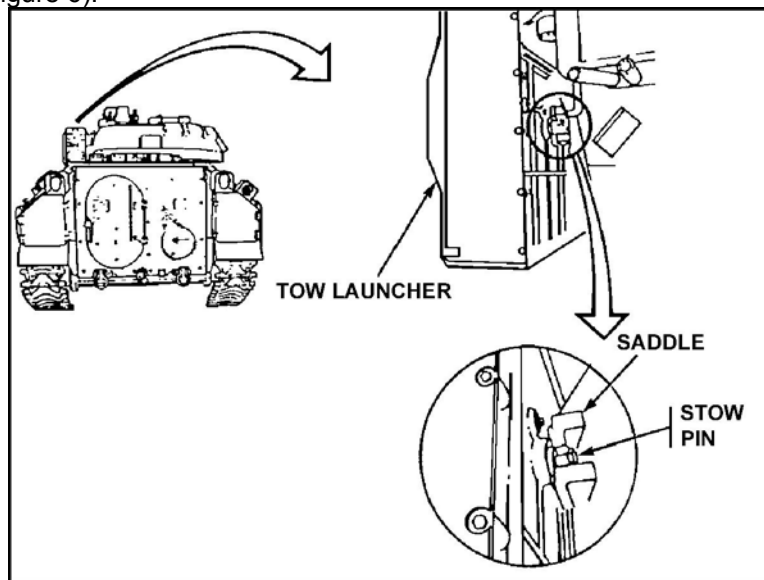

Figure 6. Stow pin and saddle.
- e. Depress the TOW launcher by turning the handwheel forward to clear the stow pin from the saddle (Figure 6).